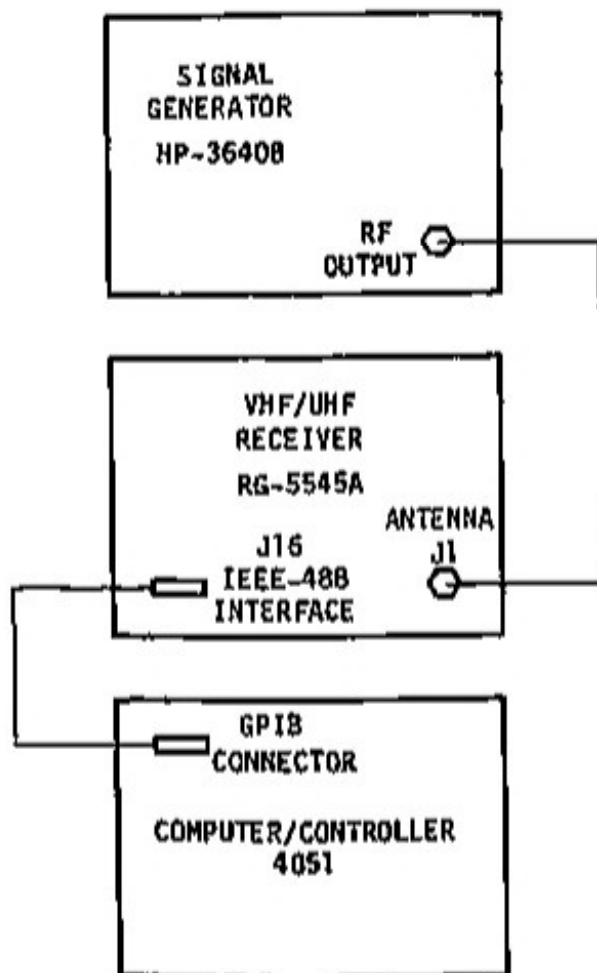

Figure 5-7. Remote Control Operation Test
1. Obtain and interconnect remote computer/controller and signal generator to Receiver as shown in Figure 5-7.